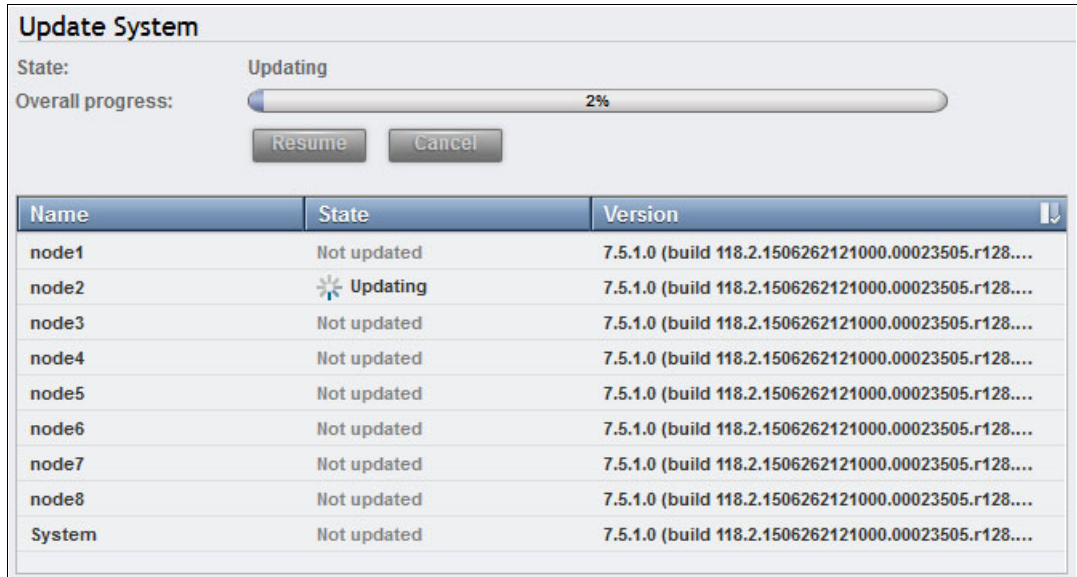

Figure 5-81 Updating first node, the second node of the first I/O group
- Figure 5-81 shows the progress on the first node updating, which is node 2 in this example.